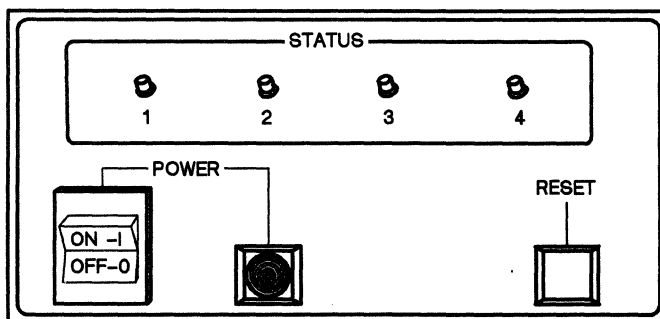

Figure 2-4. XDS/22 Operator Panel
- 1) Make sure the local power source (Table 2-3) matches the XDS/22 power requirement shown on its back-panel model plate, then press lower half of POWER switch (OFF - 0) on the XDS/22 Operator Panel (Figure 2-4), and plug XDS/22 into power source.
- 1) Turn XDS/22 on by pressing upper half of POWER switch. If the POWER indicator (Figure 2-4) doesn't light, disconnect the XDS/22 from its power source immediately and refer to Section 9.6.